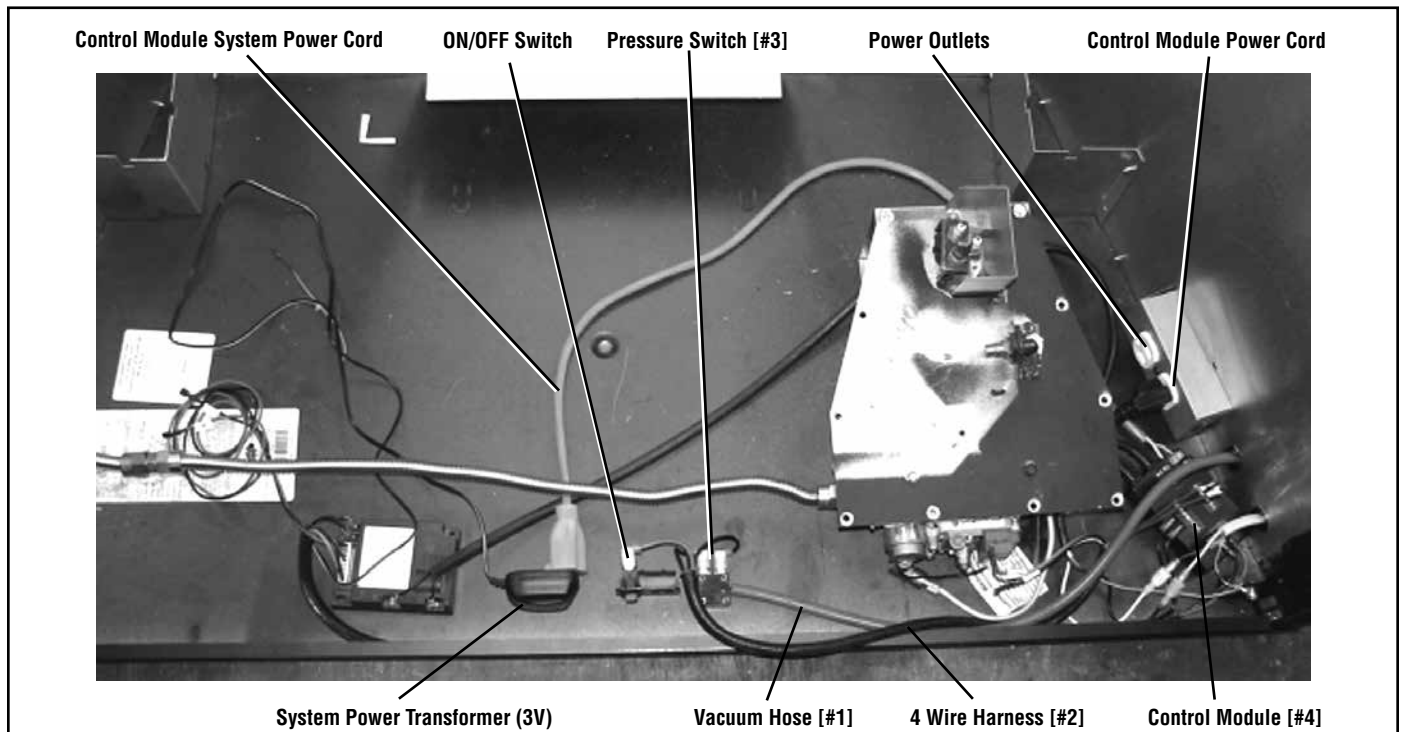

Figure 14 - General System Layout (firebox floor removed for clarity)
Refer to the general system layout shown in **Figure 14**.
- 9A.4. Disconnect the system power transformer (3V) from the power outlet (**Figure 14**).
9A.6. Position the **pressure switch** [#3] on the fireplace cabinet bottom, and secure using provided **Velcro strips** [#4] (refer to **Figures 14** and **18**).
9A.11. Ensure all components are properly placed (see **Figure 14**). Ensure the ON/OFF switch is secure and the **pressure switch** is in place.